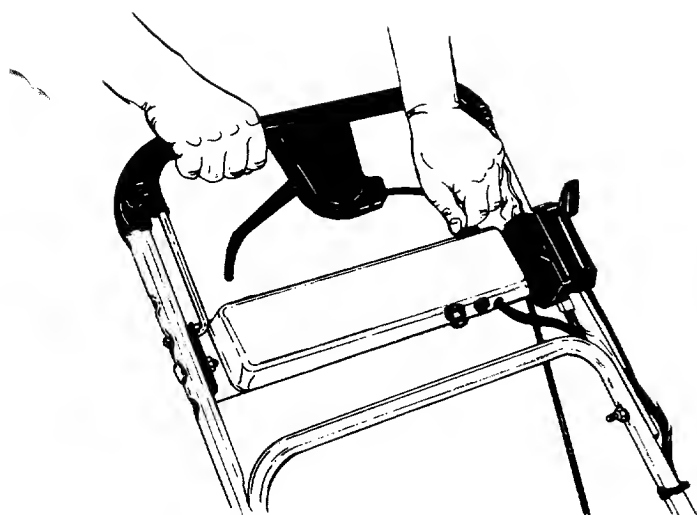

FIGURE 19.
2. Standing behind the unit, depress the blade control handle and hold it against the upper handle as shown in figure 19. Be certain the drive clutch handle is released.